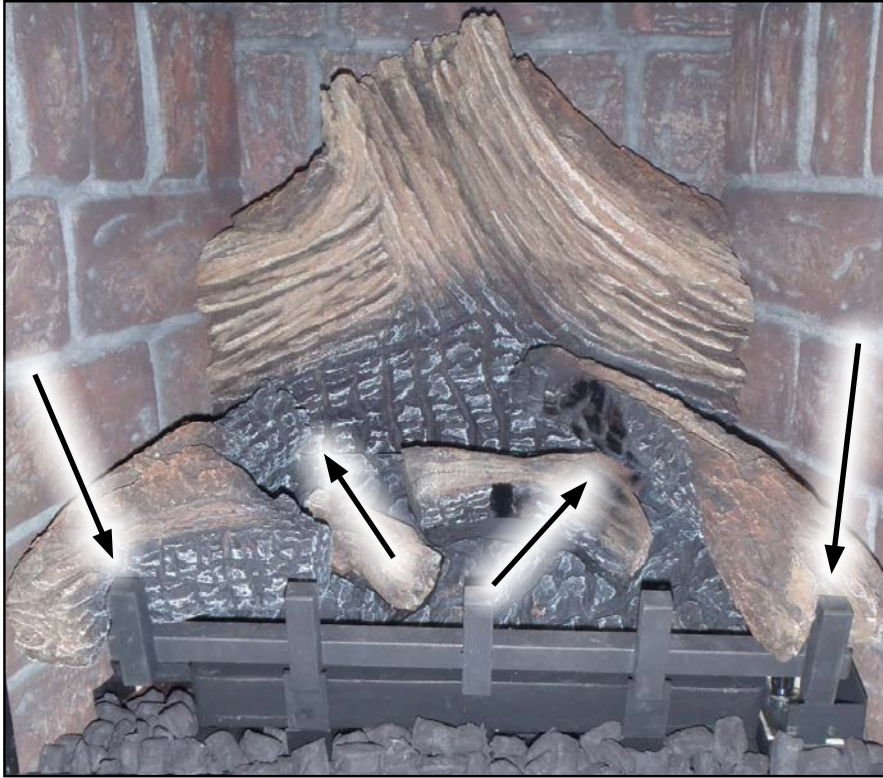

Figure 37. Coal Nuggets Installation.
**Step 2:** Fill in the bottom of the firebox using the coal nuggets supplied with the unit as shown in Figure 37.